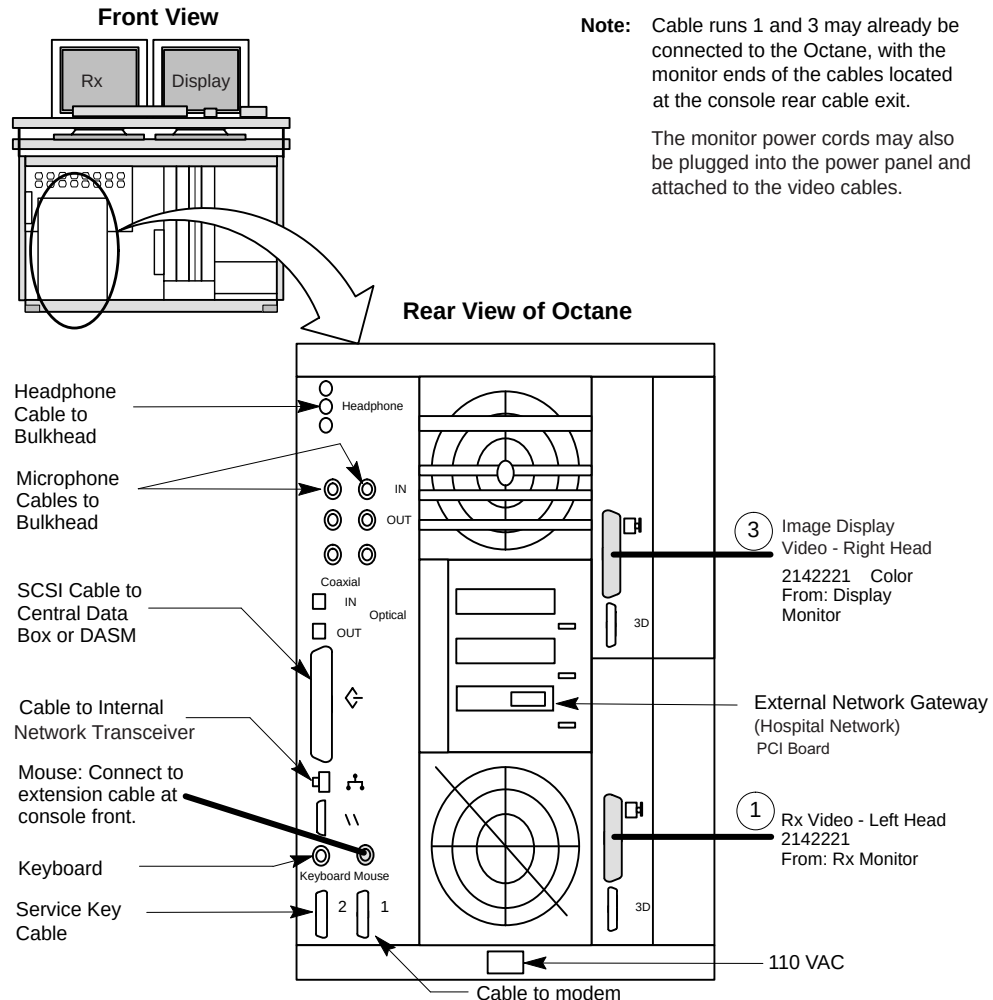

Figure 2-11 Securing the System Drive Module
- 6.) Push the lever up to lock the tray in place (Figure 2-11 on page 33).